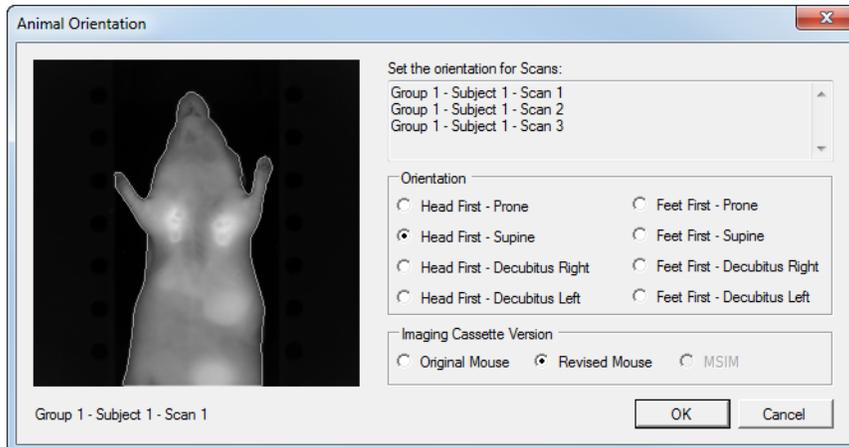

Figure 5-21. Animal Orientation window
2. Type the desired file name and click **Save** in the **Export** window. The **Animal Orientation** window (Figure 5-21) opens.
Once the local and remote DICOM nodes are properly configured, imaging scans can be transmitted to remote nodes by selecting the scans in the **Experiment** tab and then selecting **DICOM | Send to PACS | Remote Node Name**, where *Remote Node Name* is the remote AET name that you configured above. The **Animal Orientation** window, shown in Figure 5-21, opens so that you can specify the correct animal orientation and cassette version. Choose the appropriate orientation and cassette version and click **OK** to add the scans to the selected node's DICOM transmission queue.